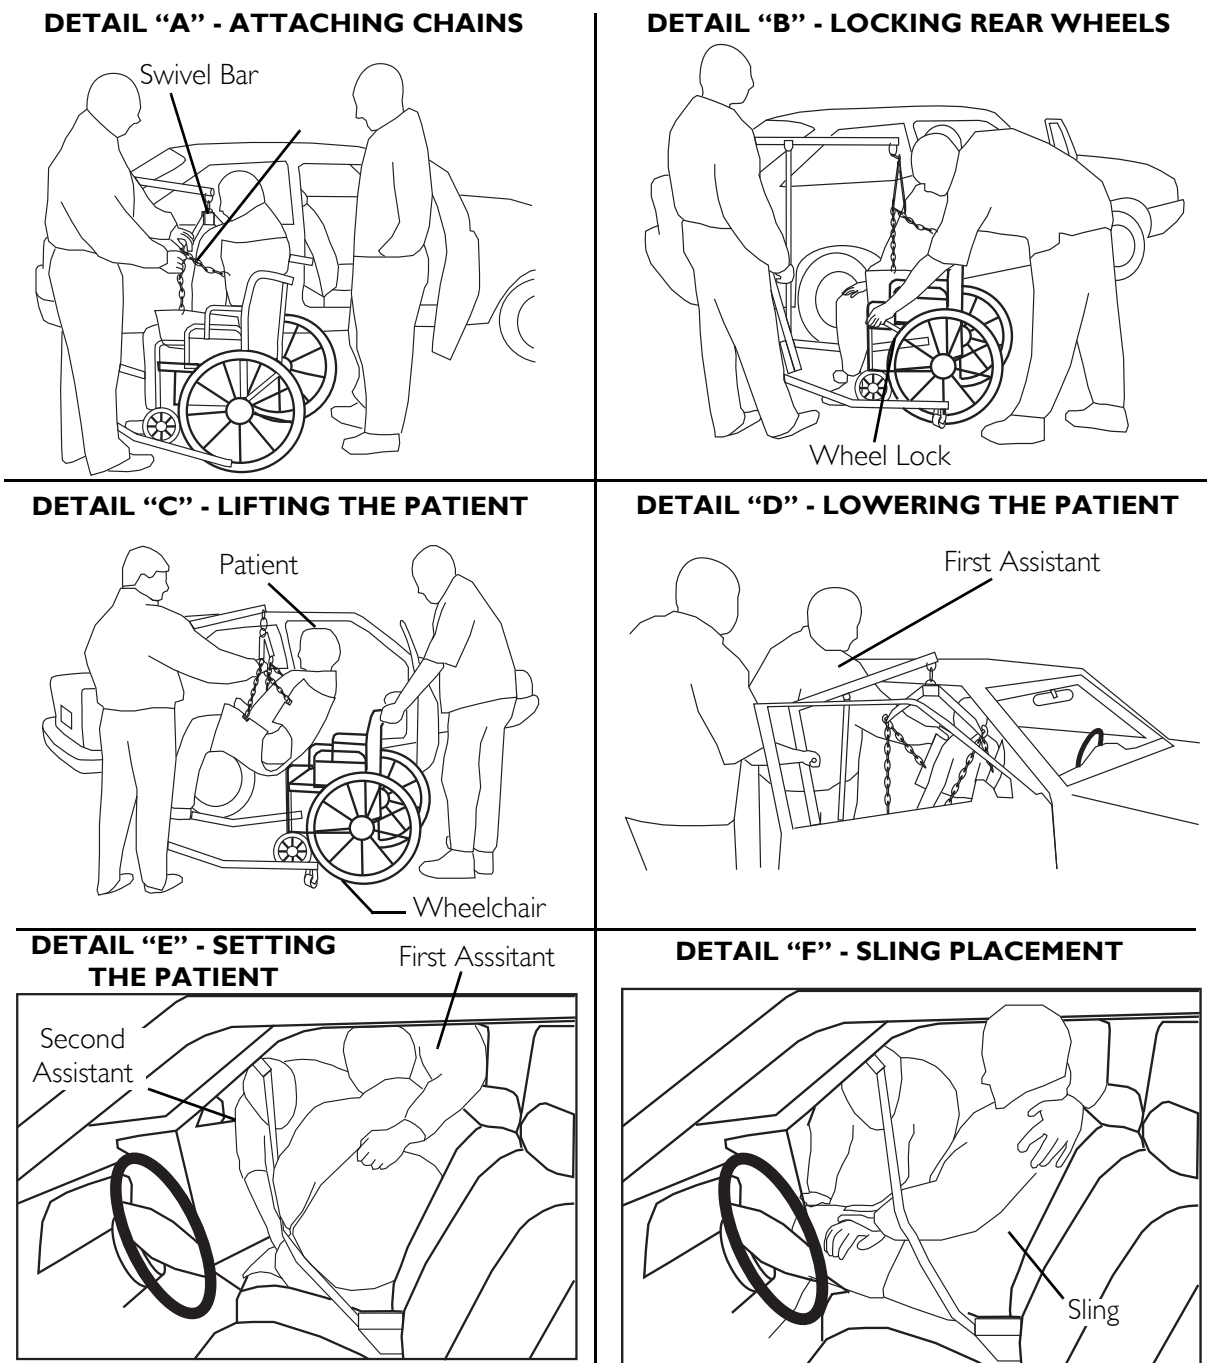

FIGURE 10.2 Transferring to a Car
NOTE: For this procedure, refer to FIGURE 10.2 on page 36.
1. Attach the chains or straps to swivel bar (Detail "A" of FIGURE 10.2).
2. Lock the rear wheels to further prevent movement of the chair (Detail "B" of FIGURE 10.2).
3. Lift the patient from the wheelchair (Detail "C" of FIGURE 10.2).
7. As the boom is being lowered, the first assistant is not only pushing but turning the patient so he/she is positioned facing the front of the car (Detail "D" of FIGURE 10.2).
8. While one assistant is holding the patient, the other assistant removes the chains or straps from the swivel bar and slides the patient lift out of the way (Detail "E" of FIGURE 10.2).
NOTE: The sling may be left under the patient or removed (Detail "F" of FIGURE 10.2).